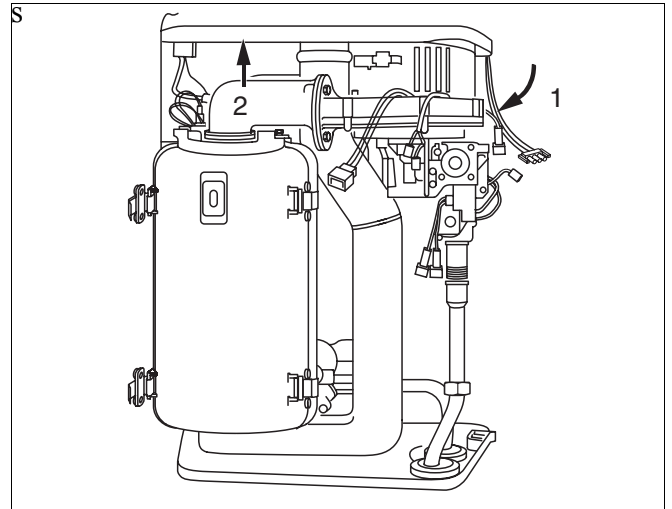

Fig. 62 Remove the air combination unit
- Swivel the air combination unit forwards (fig. 62, item 1).
- Pull the air combination unit up and out of the bayonet connector (fig. 62, item 2) and remove via the front of the unit.